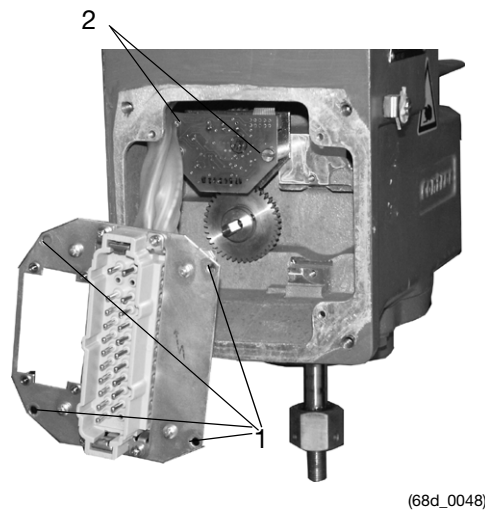

Fig. 24: Mounting position
- align the sensor and its gears with the actuator; set the first toothed gear in approx. 12:00 o'clock position (see fig. 24) onto the drive shaft gear (4)
- fasten the screws (2) tightly.